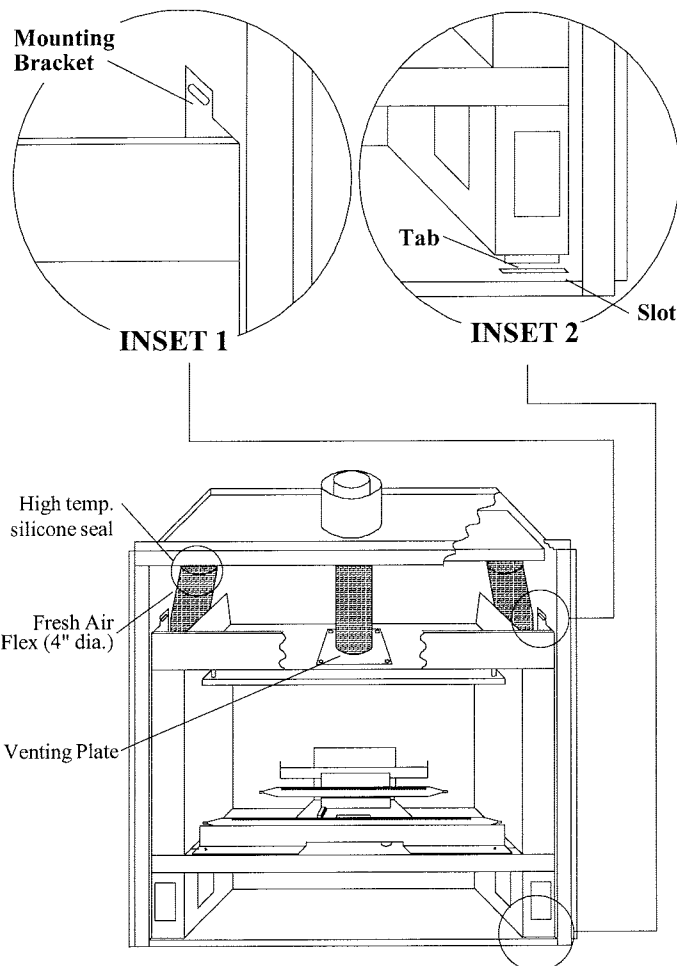

Figure 23. W38-DVM insert.
2. Remove the fresh air flex from the collars on the shell. *See Figure 23. Important: Be careful not to damage the fresh air flex during removal or storage.*